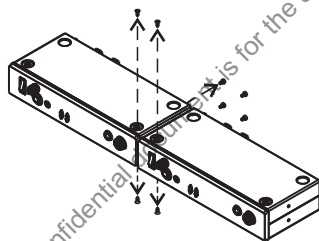

Fig. 5
- (B) Watch the color of the L/R Input Quality Indicator ⑤ and adjust the proper gain by the L/R-LEVEL Buttons ⑥ until the green indicator (OK) lights on.
- (C) Orange indicator (LOW) indicates the audio input signal or gain is set too low.
- (D) Red indicator (PEK) indicates the audio input signal or gain is set too high.
- (E) When the audio input signal continues to be too high, the screen will display "CLIP !" warning message to denote the sound distortion. It is necessary to check if the input signal level is set too high to avoid distortion.
- (F) During the setting process, plug the headphone into the monitor jack on the transmitter, and watch the color of OLED indicators to adjust the proper input level, and then turn on the receiver to monitor the sound.
- (A) Insert a 6.3 Ø or 3.5 Ø headphone into the Headphone Jacks ③ ④ , and adjust Volume Control ② to the adequate volume.
- (B)  Warning: Permanent noise-induced hearing damage or loss may occur on prolonged exposure to loud sounds wearing earphones or headphones.
- (C) Minimize the volume level before the headphone is inserted.
- (A) Remove top and bottom screws, as Fig. 5
- (B) Insert top and bottom plates to joint two transmitters. Fasten screws.